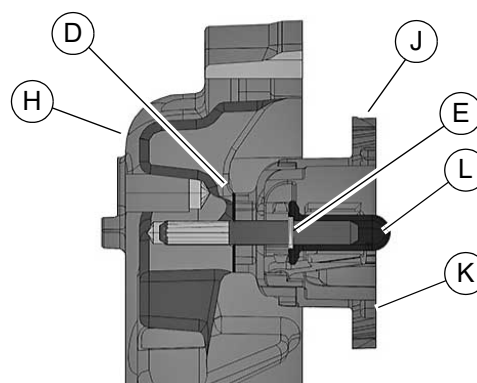

Figure 14-34. Installed Governor
- See Figure 14-34. Verify the following:
- governor washer (D) is seated on gear cover (H)
- governor assembly (J) is seated on washer
- retaining c-clip (E) is seated against governor gear (K)
- spool (L) is seated on flyweight levers